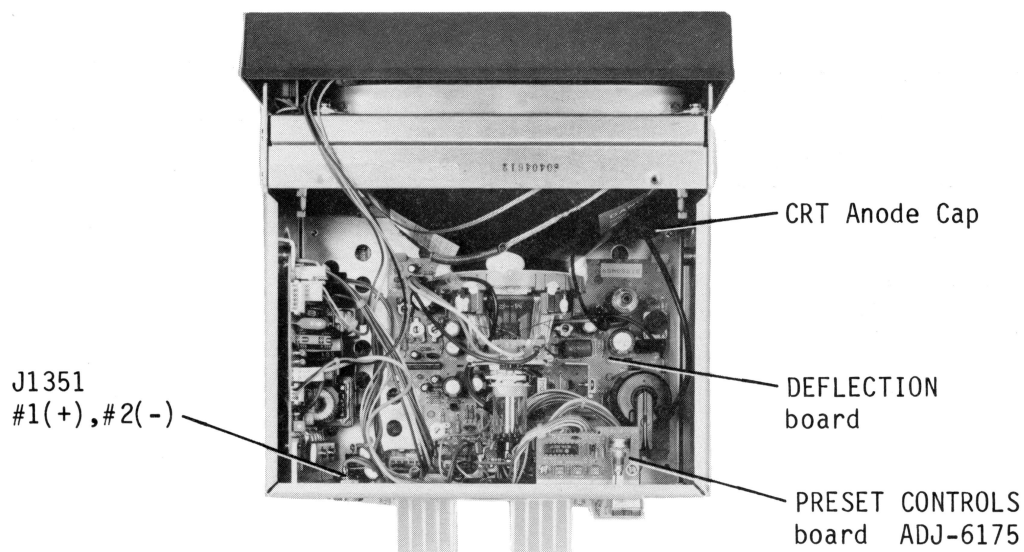

Fig.4-1 DISPLAY UNIT TOP VIEW (1)
- 4) Check the mains input voltage as follows. See Fig.4-1.